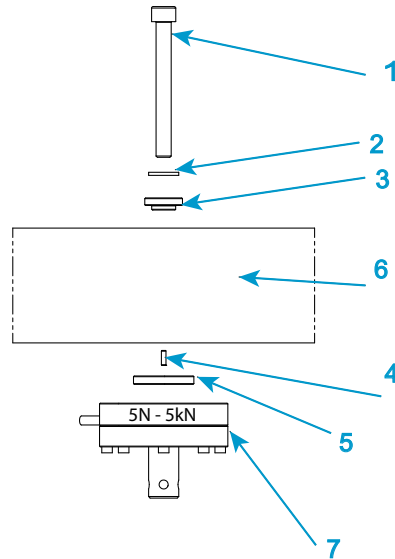

Figure 17. Install a 2530 series load cell - capacities 5 N through 5 kN
Legend for Figure 17
1. Refer to Figure 17 on page 75 and its associated legend.